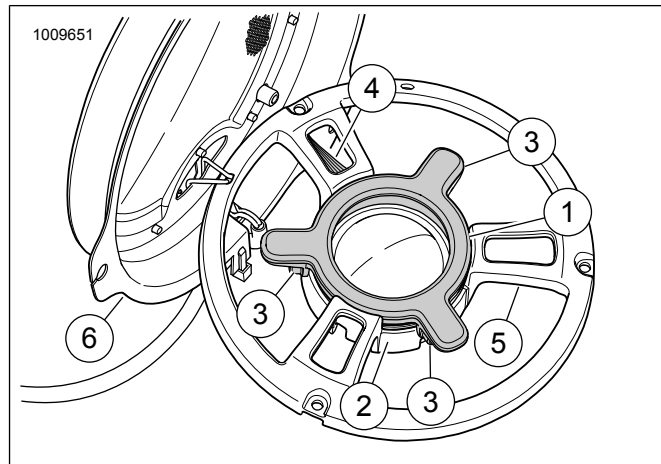

Figure 4. Speaker Grille, Tweeter Bridge and LED Light
7. See Figure 4. Assemble tweeter bridge (5) to speaker grille (6). Use hardware that was previously removed.